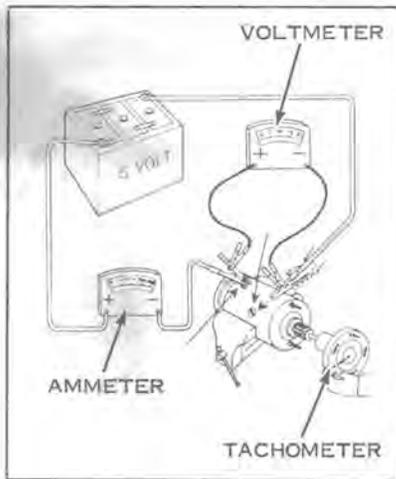

Figure 7-39
- Connect starter, with an ammeter in series, to a 6-volt source (see Figure 7-39). Use a tachometer or rpm indicator to indicate armature speed.